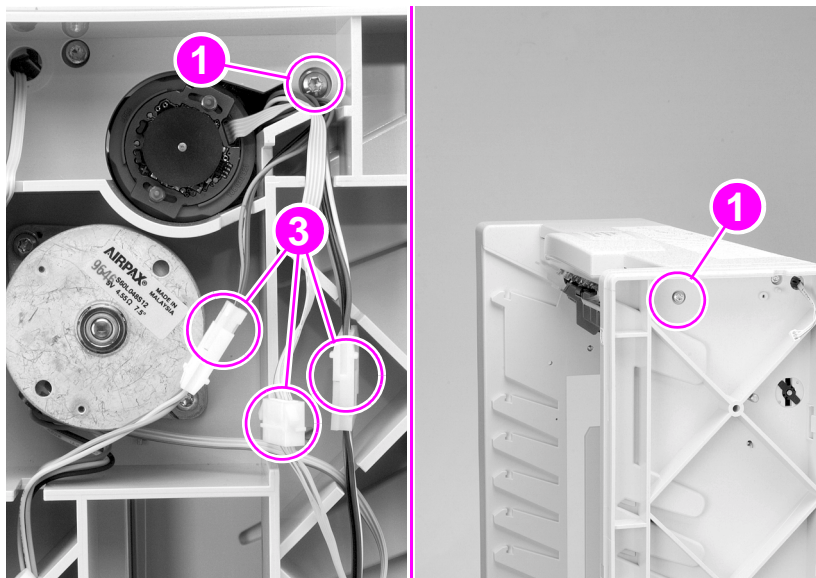

Figure 168. Flipper assembly (1 of 3)
- 5 Unplug three connectors (figure 168, callout 3).